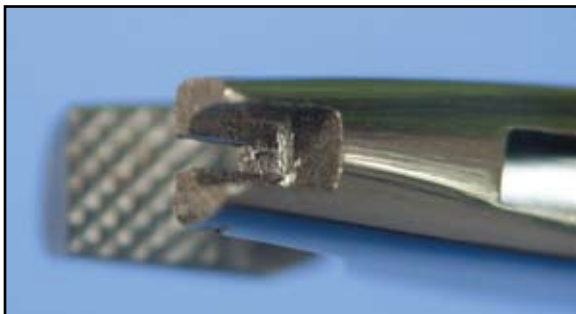

Fig. 2 Modified needle holder with one-third of jaws cut away and one jaw split vertically.
1. Modify a standard needle holder by cutting off one-third of the jaws and splitting one jaw vertically (Fig. 2).